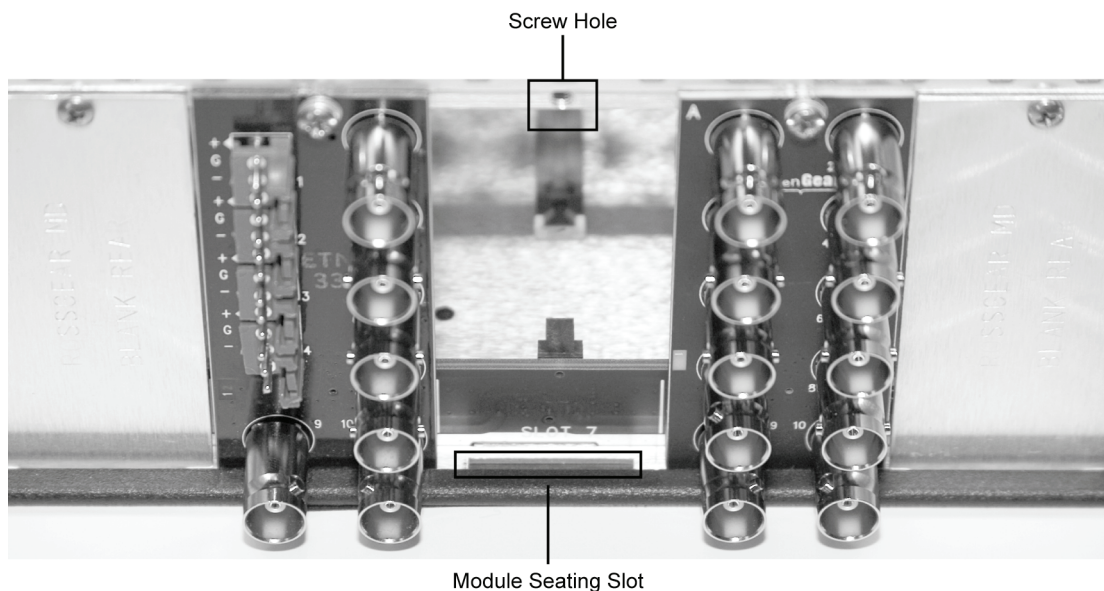

Figure 2.1 Rear Module Installation in a DFR-8310 Series Frame (TEA-8207 not shown)
4. As shown in **Figure 2.1**, seat the bottom of the rear module in the seating slot at the base of the frame's back plane.